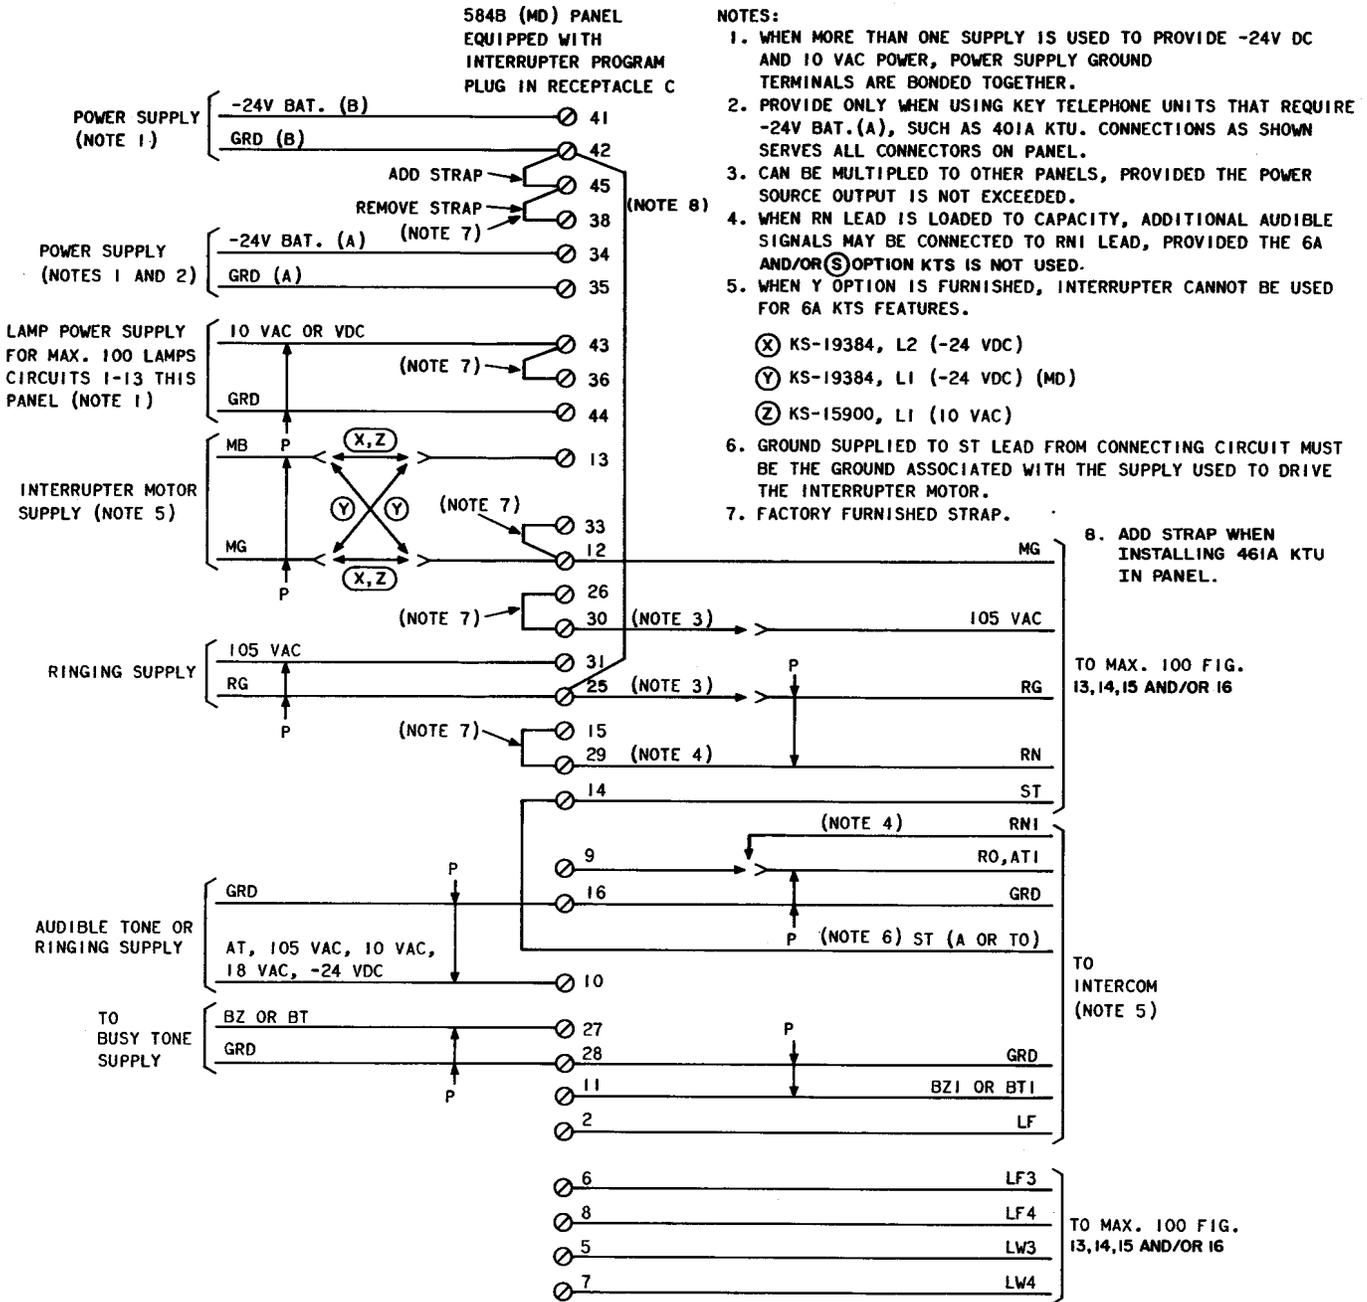

Fig. 12—584B (MD) Panel Equipped With Interrupter (Master panel used to control up to 200 other panels each equipped with 412A KTU)
- Fig. 12—584B (MD) Panel Equipped With Interrupter (Master panel used to control up to 200 other panels each equipped with 412A KTU)